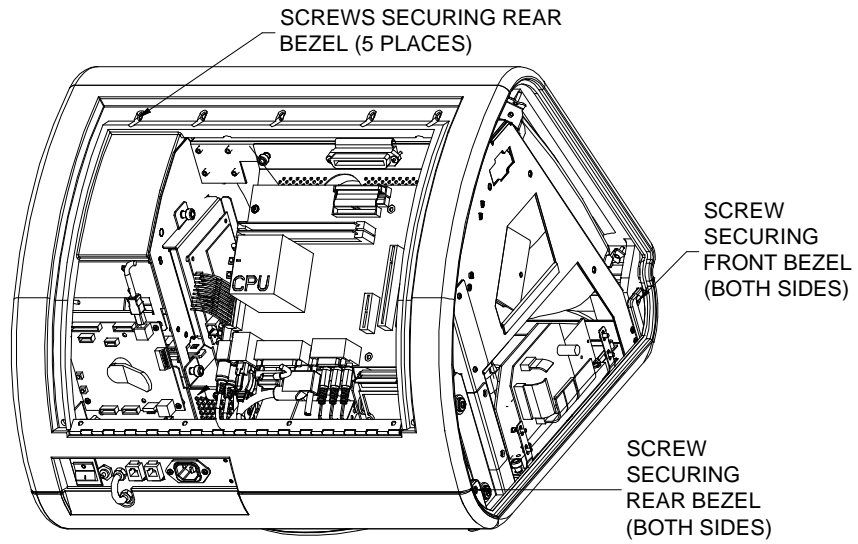
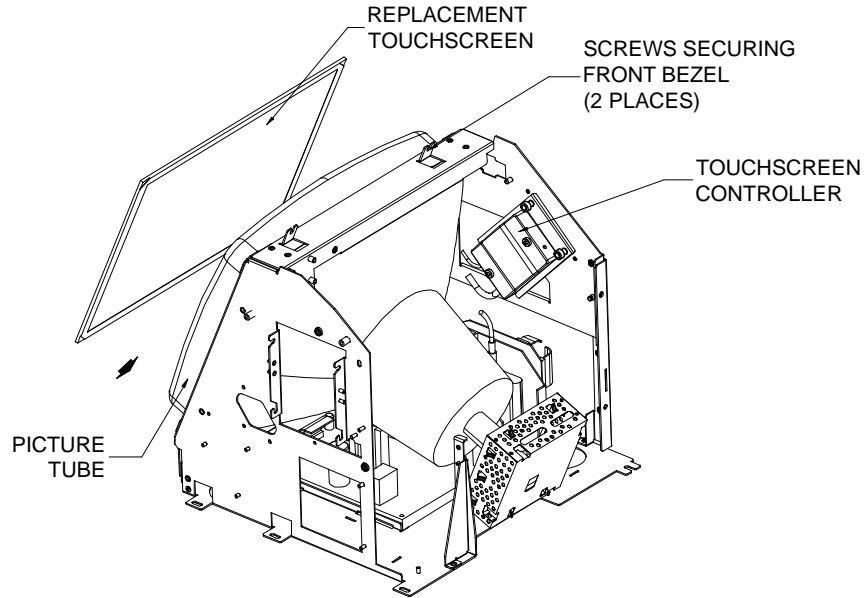

FIGURE 2 - FORCE RADION/FUN ZONE JR. - FRONT AND REAR BEZELS
FIGURE 3 - FORCE RADION/FUN ZONE JR. - MONITOR ASSEMBLY
bezel to the game. Five screws are located along the top edge of the game and 2 are at the bottom rear of each side of the game. See Figure 2.
7. Remove the 4 screws holding the front bezel to the game. Two screws are located at the bottom on each side of the game (see Figure 2) and 2 are on the top surface (see Figure 3).
9. Remove the two nuts and washers securing the touchscreen controller (see Figure 3) to the game and remove the controller from the mounting screws. Then disconnect the cable from the back of the controller and disconnect the Molex connector (orange and gray wires) running from the touchscreen controller cable to the main power harness.
19. Replace the front bezel and the 4 screws (2 at the bottom, 2 at the top) holding the bezel to the game. See Figures 2 and 3.
20. Replace the rear bezel and the 7 screws (5 along the top edge, 2 at the bottom rear) holding the bezel to the game. See Figure 2.